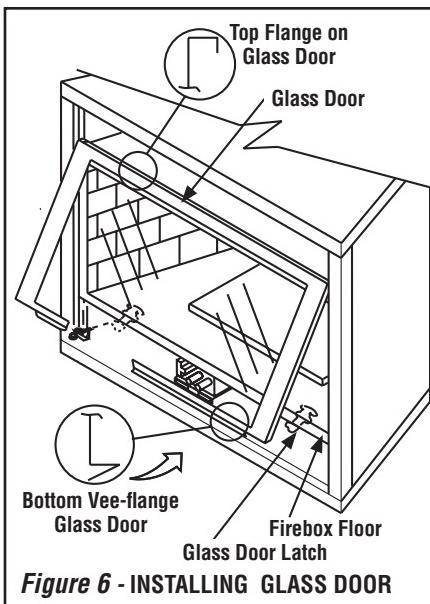

Figure 6 - INSTALLING GLASS DOOR
Removing Glass Enclosure Panels (see *Figure 6*)
Installing Glass Enclosure Panels (see *Figure 6*)
2. Position the glass enclosure panel in front of the firebox opening at a 45 degree angle and engage the top flange over the lip at the top of the firebox opening. **See Figure 6.**